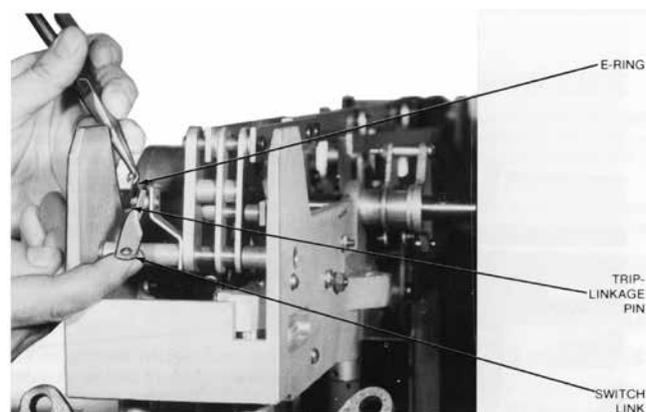

Figure 5. Assemble switch link to trip-link pin.
5. Proceed with accessory installation by assembling the switch link (Item 9) to the trip-link pin on the recloser mechanism (Figure 5).